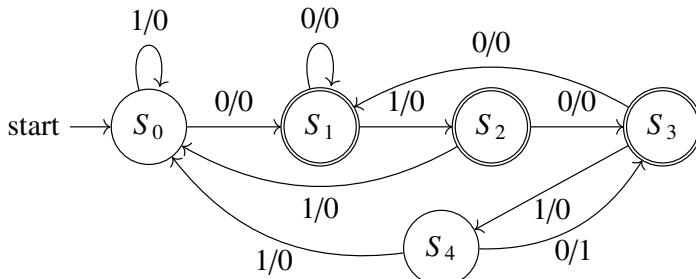

Fig. 6.3
1. The state diagram of a sequence detector is shown in Fig. 6.3. State S_0 is the initial state of the sequence detector. If the output is 1, then (GATE EC 2020)